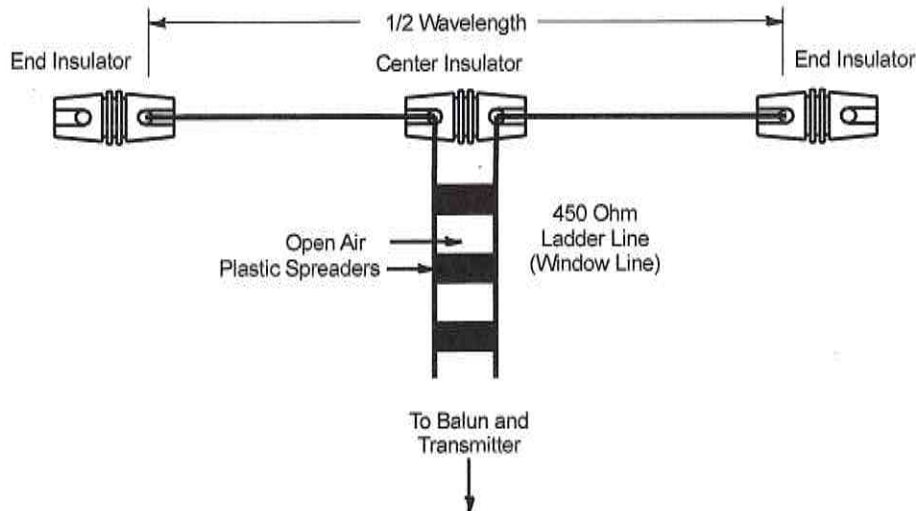

Figure 11-7. Dipole antenna fed with ladder line.
Figure 11-7 shows a 450 ohm ladder line feeding a dipole antenna. The antenna and the ladder line make a *balanced* transmission system and so at the transmitter, or more likely where the feed line enters the house, a transition is made to an *unbalanced* transmission line to connect to the unbalanced transmitter antenna connector, i.e. the coax connector on the back of your rig. See *Balanced and Unbalanced Systems, Baluns*, page 179.
- The ladder line shown in Figure 11-7 also acts as an impedance transformer when SWR exists.